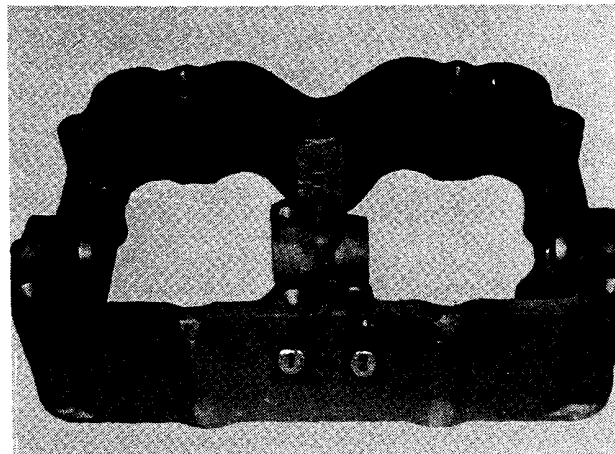

Fig. 3-2, (N10318-A) Breather vent hole
7. Check breather vent hole (1, Fig. 3-2) to make sure it is free of dirt or other deposits.